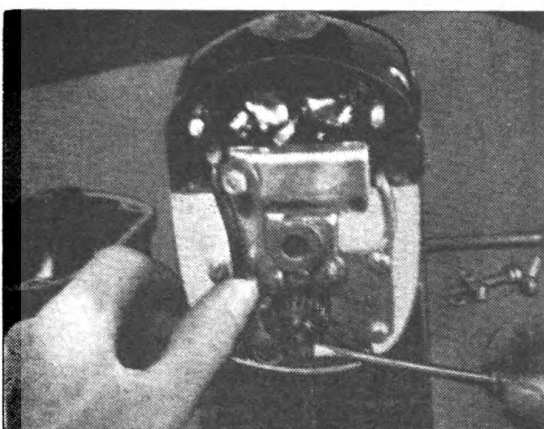

Fig. 48. Removing Breaker Arm
- (a) Remove the breaker arm. Fig. 48.
Remove breaker spring screw and pull off breaker bar. Fig. 48.